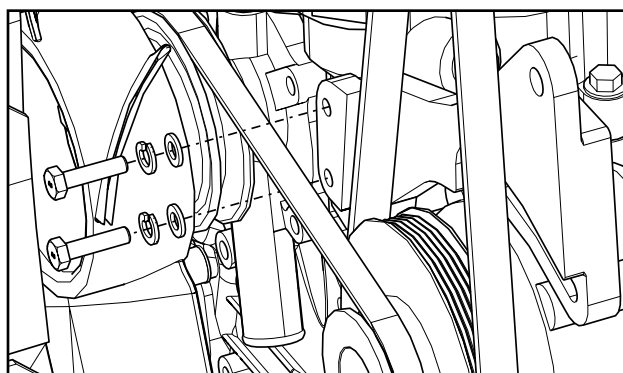

Fig. 2.6 (Alternator Bracket Hardware)
(1) M10 x 1.5 Flange Nut
2.9 Torque the alternator bracket bolts. Reference Fig. 2.6 on previous page.